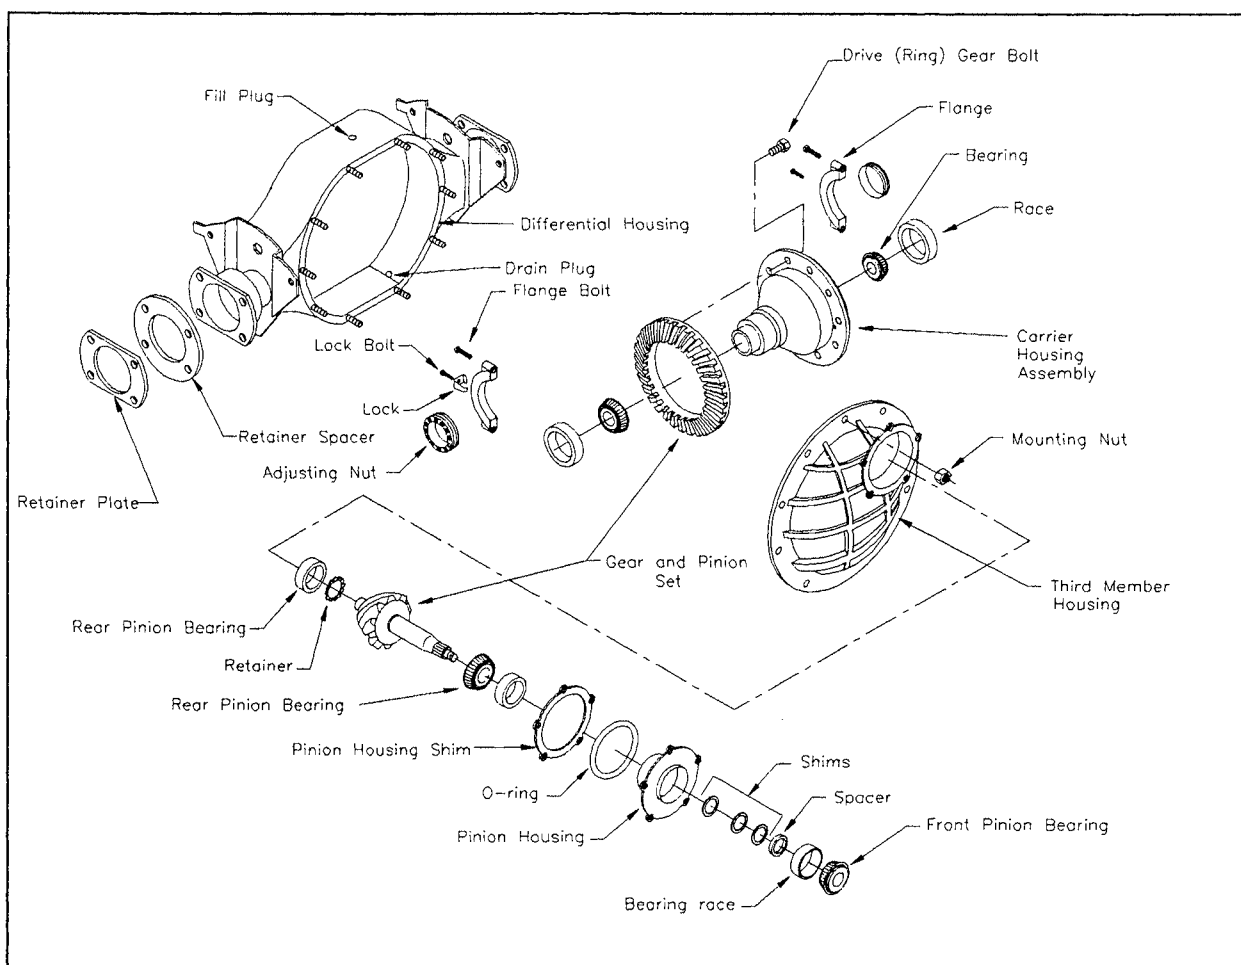

Figure 3-10
- Remove the third member housing by removing the mounting nuts from the drive (see Figure 3-10).